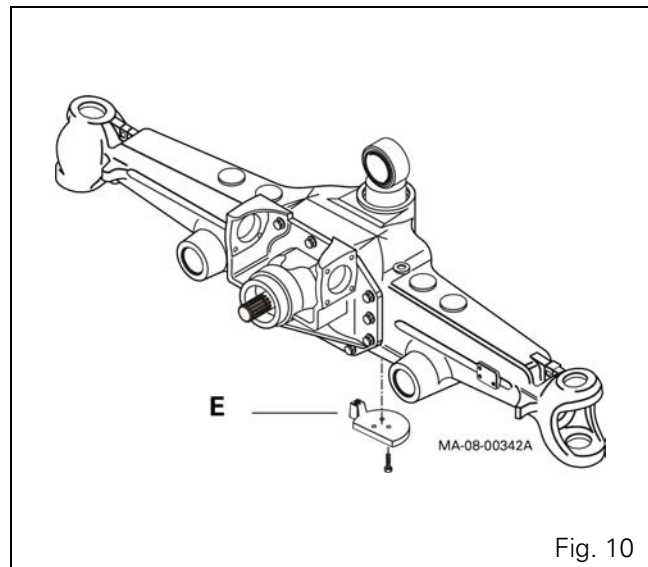

Fig. 10
88. Put the dial gauge feeler pin against the end of the shaft (34) (Fig. 10).
92. Depending on the clearance value, select a definitive shim (14) thickness to obtain a clearance:  $J2 = 0$  to  $0.10$  mm (Fig. 10).
- the circlip (8);
- the seal holder (10) (GTA1040) or the spacer (10) (GTA1540);
- the shaft (34);
94. Definitively refit the clutch assembly (7)/bell gear (6) and the shaft (34) by repeating steps 31 to 35.
10. Fit the lower cover E on the lower part of the axle beam and tighten the relevant attachment screws to the required torque (see chapter 8) using a torque wrench (Fig. 10).